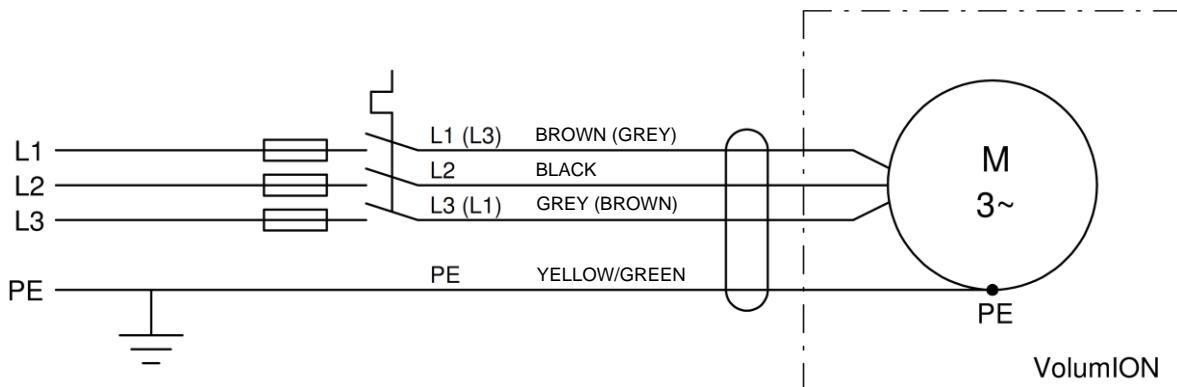

Figure 4: Connection diagram 3-phase version
- If the direction of rotation is opposite to the arrow direction: reverse two phases (L1 en L3) in the mains connection (figure 4) or in the motor terminal box (figure 3).
The (blue) high voltage cable must only be shortened as shown in figure 4.